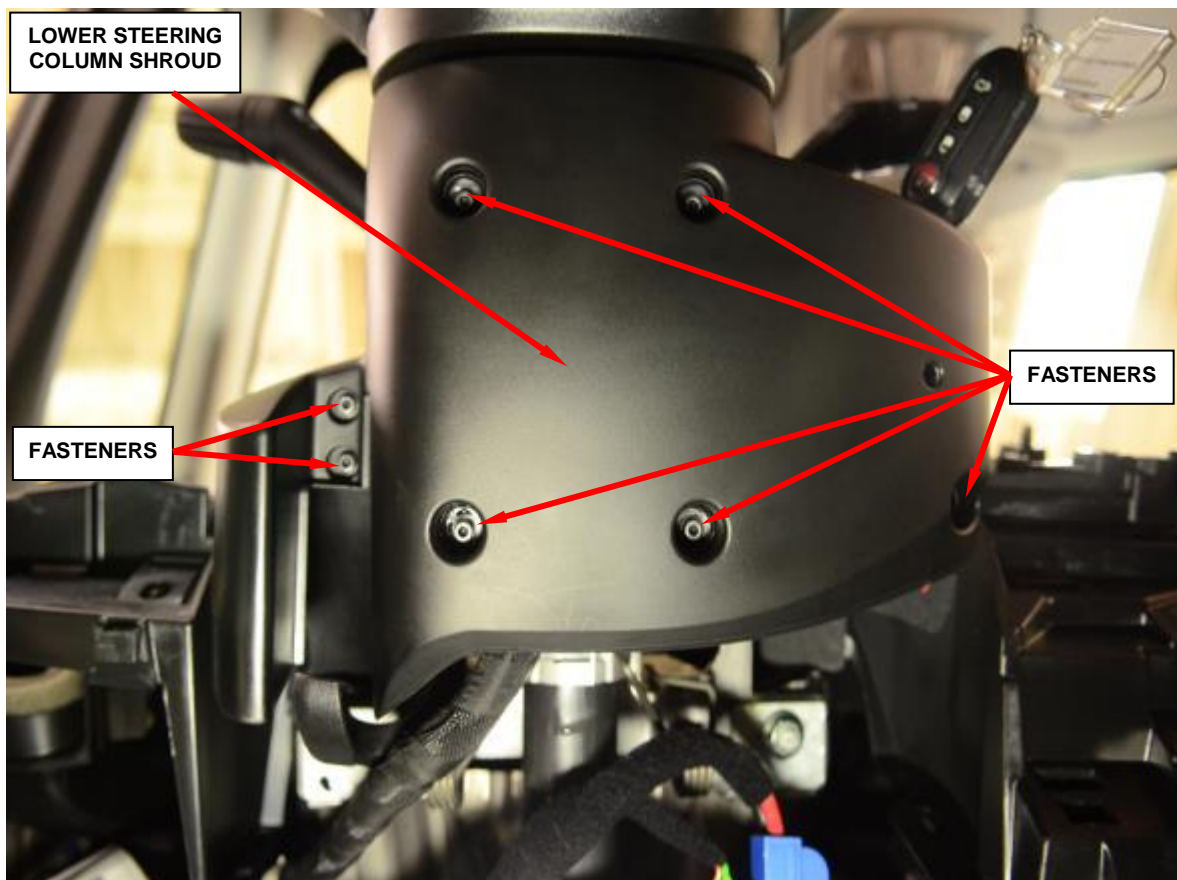

Figure 14 - Lower Steering Column Shroud
20. Remove and save the seven fasteners from the lower steering column shroud (Figure 14).